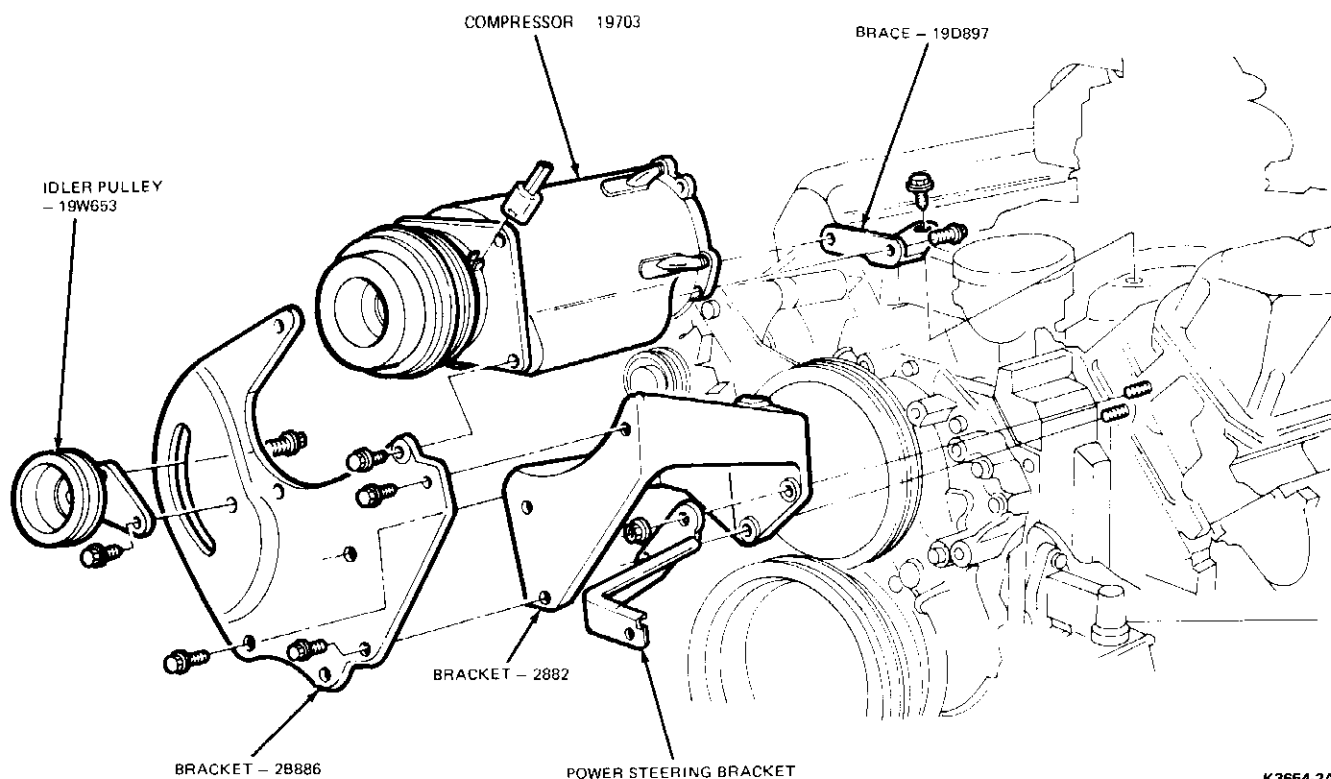

FIG. 19 Compressor Installation — 5.7L (351-M CID) and 6.6L (400 CID) Engines — Early Production
2. If the belt tension is not within specification, loosen the two idler pulley arm attaching bolts until they are just snug (Figs. 19, 20, and 21).